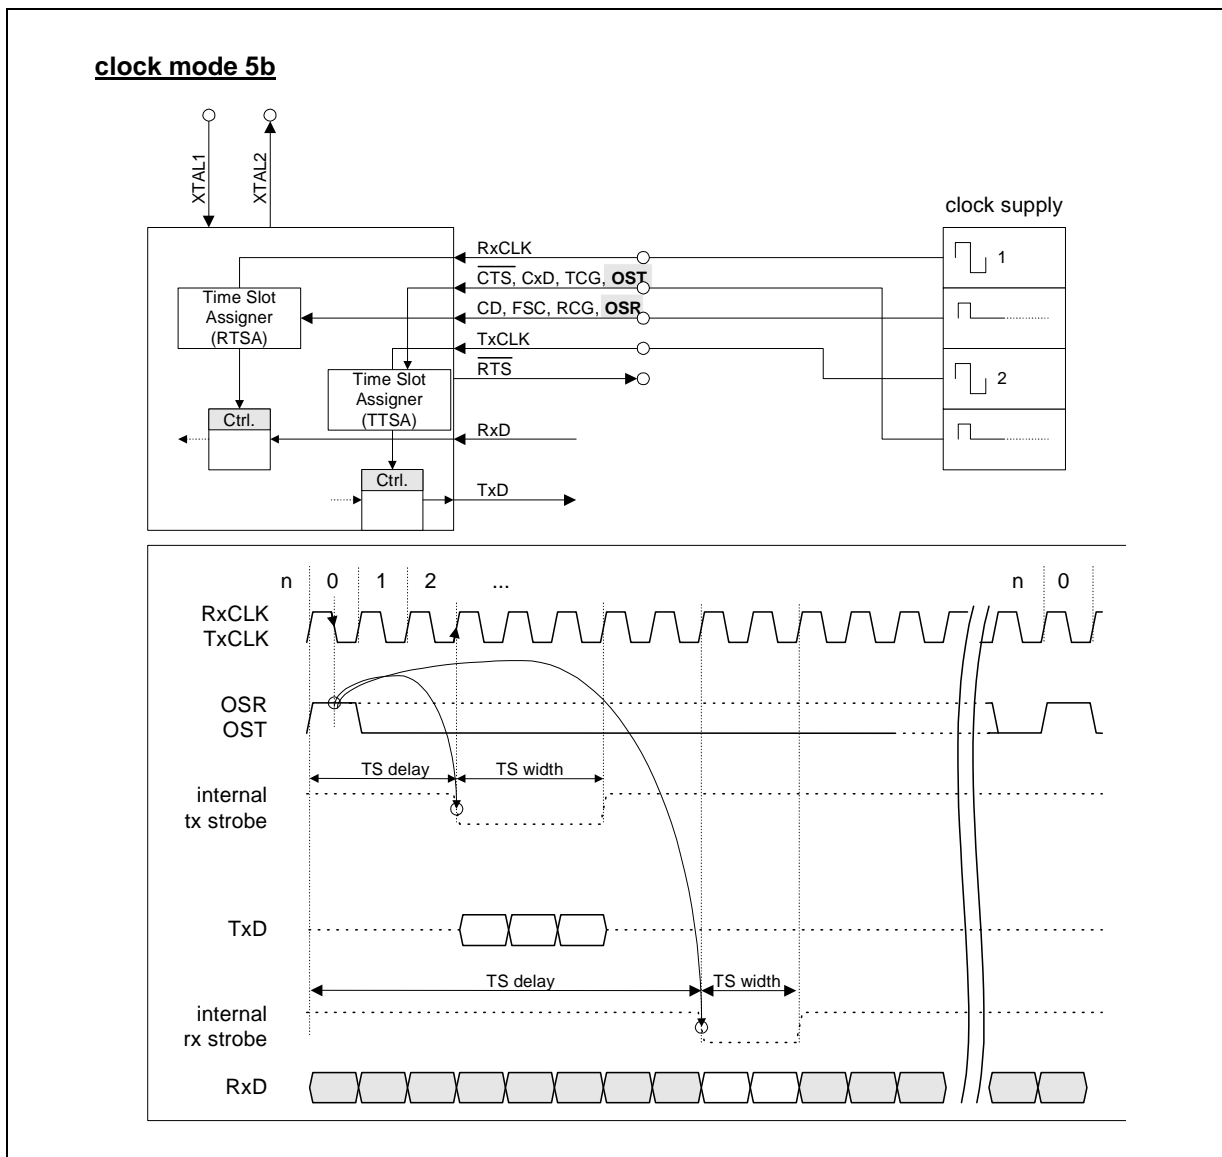

**Figure 23 Selecting one or more octet wide time-slots**
**Figure 23** shows how to select one or more octet wide time-slots.